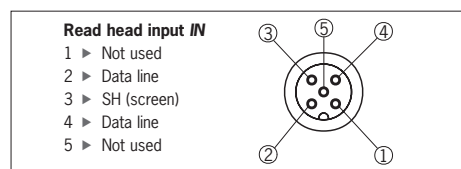

Figure 1: Socket assignment (view of connection side)
- ▶ Connect the VAZ read heads to the read head inputs IN (M12 socket 5-pin) (see Figure 1)